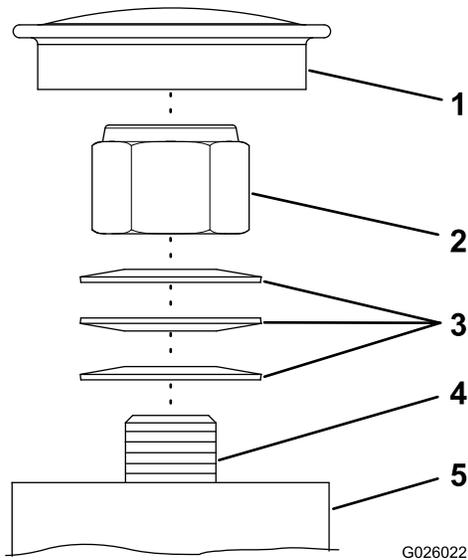

Figure 44
Note: If you disassemble the caster pivot bearings, ensure that the spring-disc washers are installed as shown in Figure 44.
1. Remove dust cap from caster hub (Figure 44).
2. Tighten lock nut clockwise until spring-disc washers are flat (Figure 44).
3. Rotate the lock nut counterclockwise 1/4 of a turn (Figure 44).
4. Install the dust cap (Figure 44).